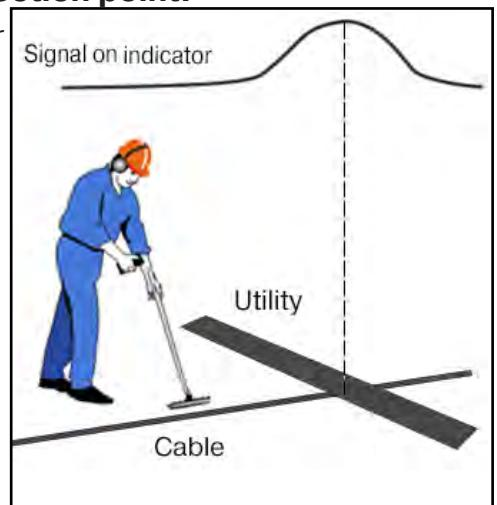

Fig. 5.2
3. Position the electromagnetic sensor over the pipeline, parallel to the pipeline route (signal level displayed on the receiver screen will be close to zero) (**fig. 5.2**). Perform route location in accordance with the maximum method. When following the route, the intersection points with utility lines can be identified by the maximum signal.